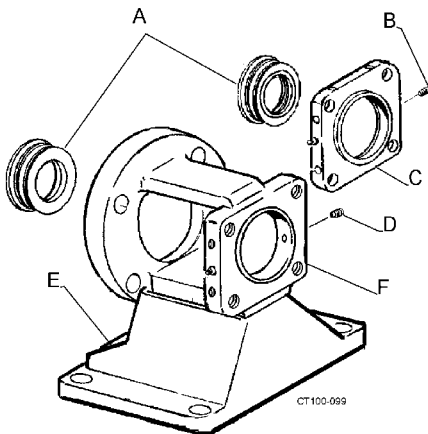

Figure 51 - Outer Seal Assemblies
9. Remove the stand/housing assembly, then remove the end cap (Figure 51, item C on page 42).
NOTE: Figure 49 shows the seal position at the motor end. Seals at the pump end face inward. Make sure to tighten the set screws when installing the outer seal assemblies (Figure 51).